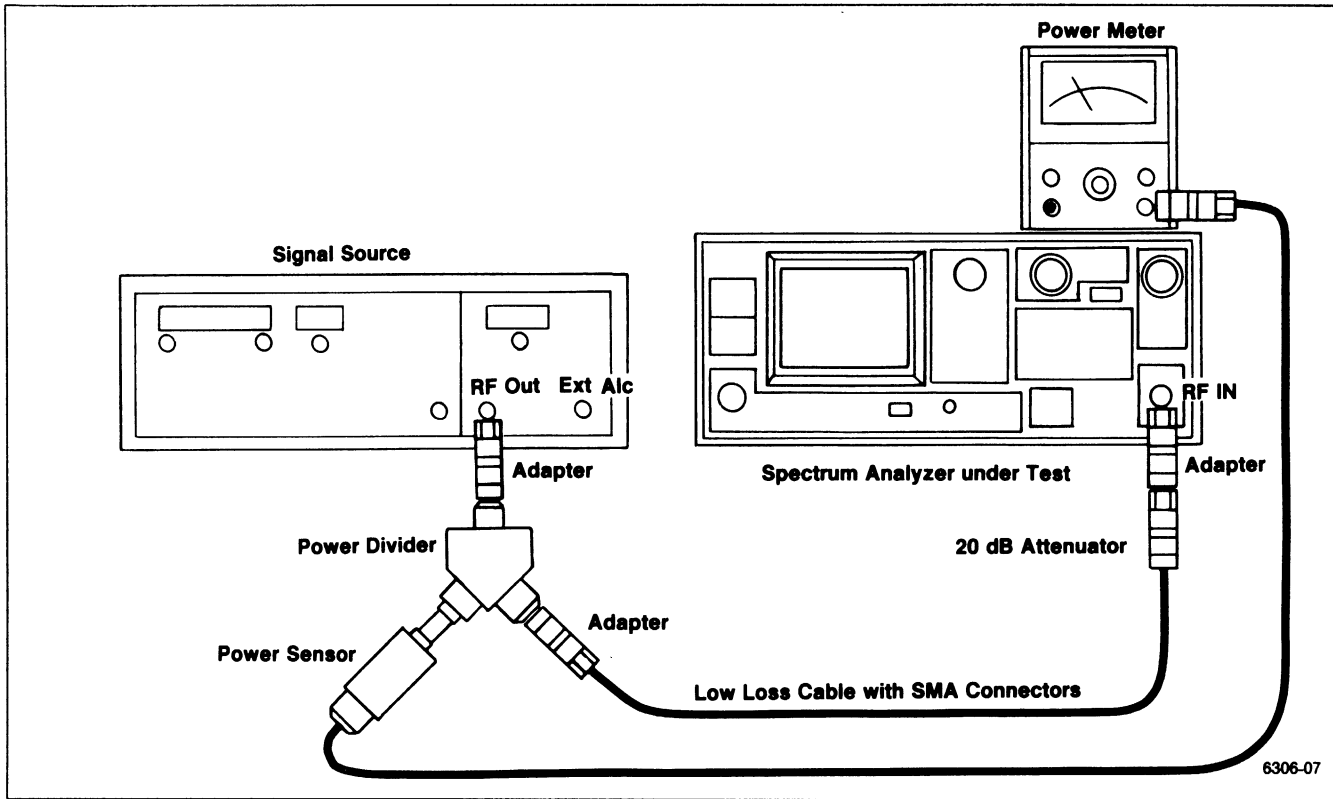

Figure 4-12. RF attenuator test equipment setup.
- a. Connect the test equipment as shown in Figure 4-12. Set the Spectrum Analyzer controls as follows:
b. Connect the test equipment as shown in Figure 4-12. Set the Spectrum Analyzer controls as follows: